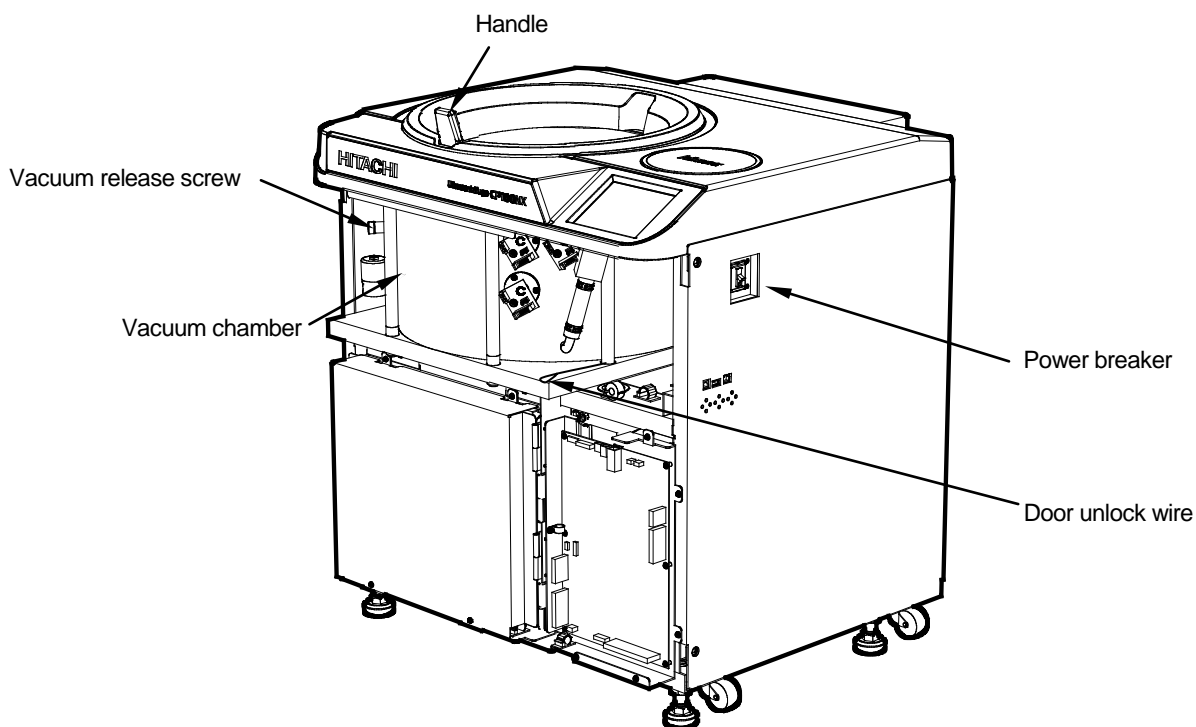

Fig. 3-5-2. Ultracentrifuge with the front cover removed
- (4) Open the air vent (by turning the vacuum release screw on the left of the vacuum chamber counterclockwise) to let air into the rotor chamber. When the pressure in the rotor chamber reaches atmospheric pressure, do not forget to tighten the vacuum release screw as it was before. (See Fig. 3-5-2.)
- (5) Pull the door unlock wire on the right of the vacuum chamber and, at the same time, push the door handle. Then the door opens. When opening the door, confirm that the rotor is not rotating. If it is still rotating, immediately close the door.
- (6) Remove the rotor. After the removal, close the air vent and put the front cover back to the ultracentrifuge. Insert the top surface of the front cover in the bottom surface of the front side of the top deck and put the bottom surface of the front cover on the support plate of the front cover by reversing the removing procedure. Firmly press the front cover against the frame, making sure that there are no gaps between them, and secure the cover to the frame with four M5 hexagon head bolts.